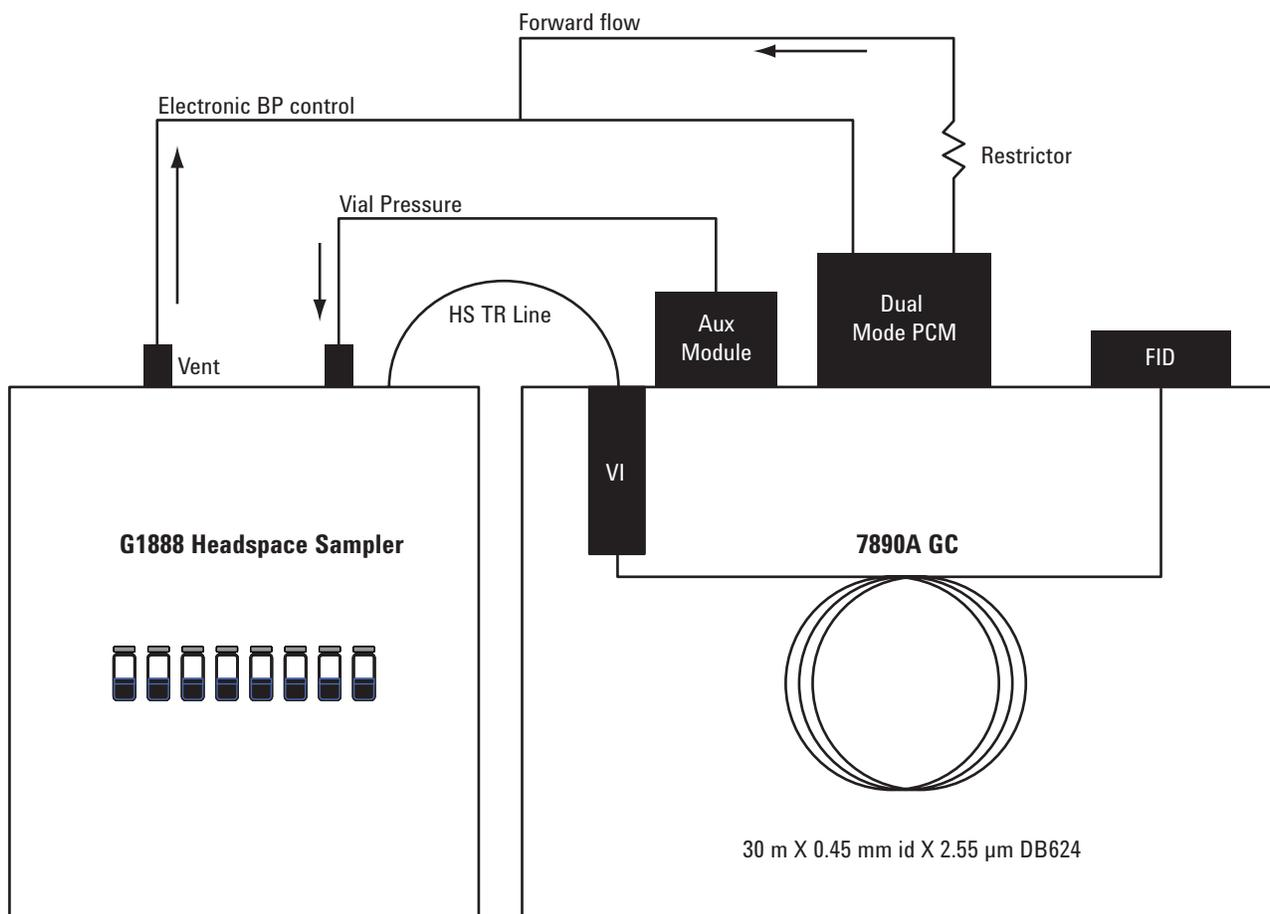
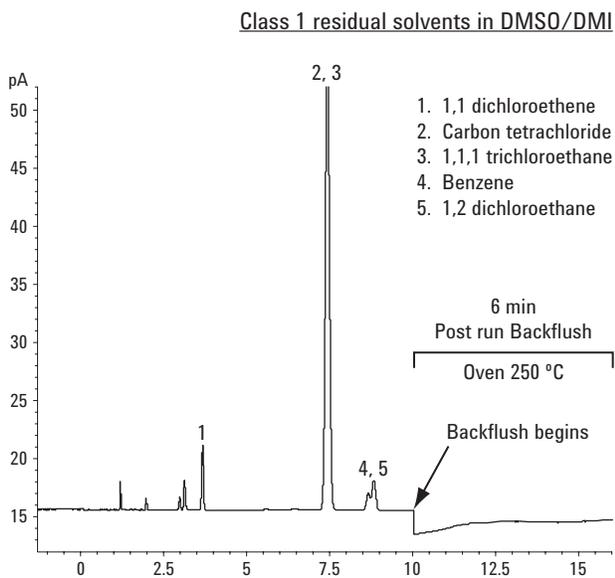
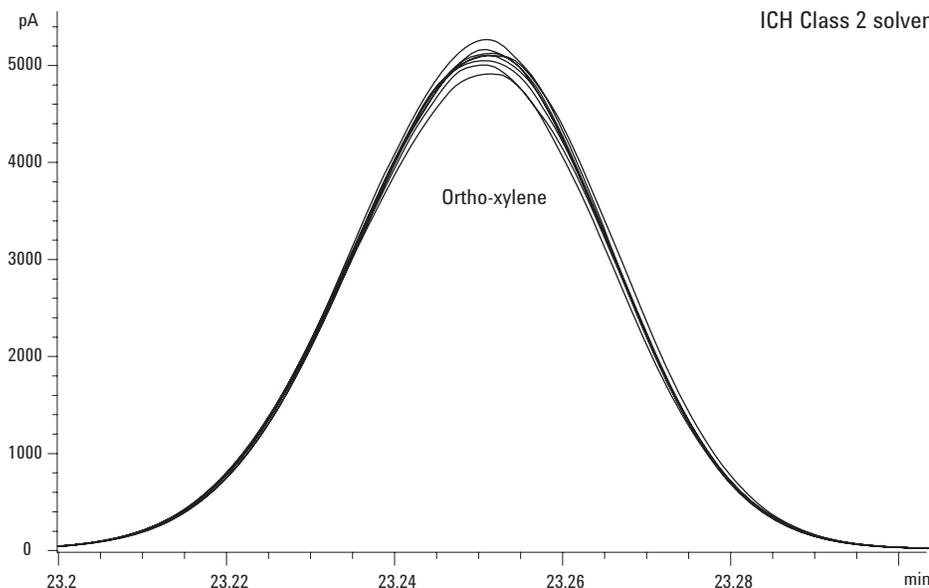

Figure 2. Block diagram of residual solvents configuration without backflush.
Figure 3. Backflush of Class 1 residual solvents in DMSO/DMI.
Figure 4. O-xylene (195 ppm), overlay N = 8 (BPR of HS loop @ 5 psi, HS vial pressurized to 20 psi).
New capillary flow technology and state-of-the-art pneumatic electronics implemented in the 7890A GC addresses these issues and significantly improves the analysis of residual solvents. Figure 2 shows a block diagram of the HS/VI/GC/FID system. The HS transfer line is interfaced to the GC by a volatiles interface (VI), which is operated at 2:1 split ratio for improved sensitivity. The sample pressure in the gas sampling valve loop of the HS sampler is controlled to within 0.001 psi by an electronic backpressure regulator (BPR) to significantly improve area precision. This function is part of the dual mode Programmable Control Module (PCM) on the 7890A GC. Sensitivity is also improved by pressurizing the sample in the loop of the GSV. Finally, implementation of a column backflush facilitated by a capillary-flow-technology splitter and aided by fast oven cool-down time decreases the sample turnaround time; this is shown in Figure 3. Figure 4 shows typical repeatability in peak area and retention time and the Method Detection Limit (MDL) for o-xylene as a representative example. [1]